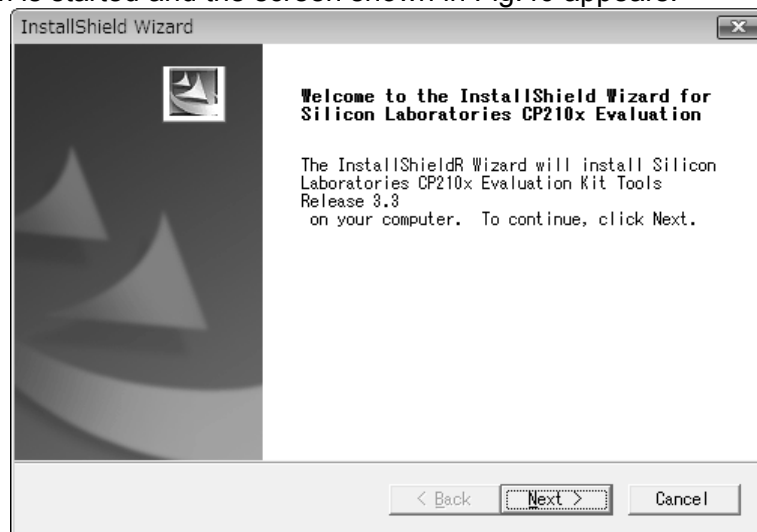

Fig. 40 Installer program start-up
- (2) The setup program is started and the screen shown in Fig.40 appears.